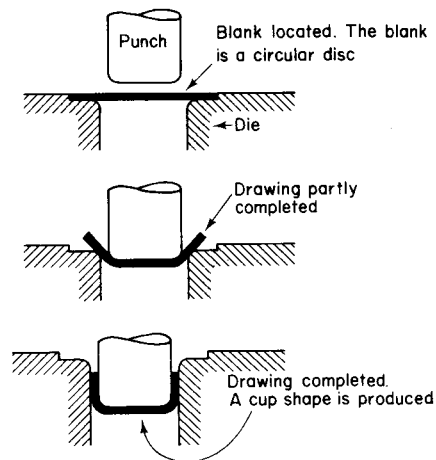

Fig. 4.140 Drawing to produce a cup shape from a flat disc
**Drawing.** When a cup or a dish shape is needed these are usually produced by drawing. The process is illustrated in Fig. 4.140.